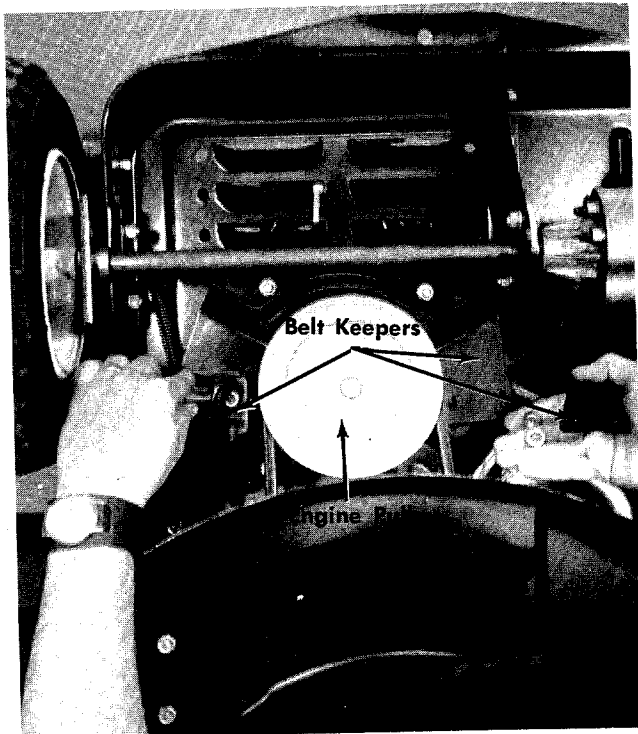

FIGURE 18. REMOVAL OF BELT KEEPERS
- Step 2. Remove two belt keepers at the engine pulley. See figure 18.